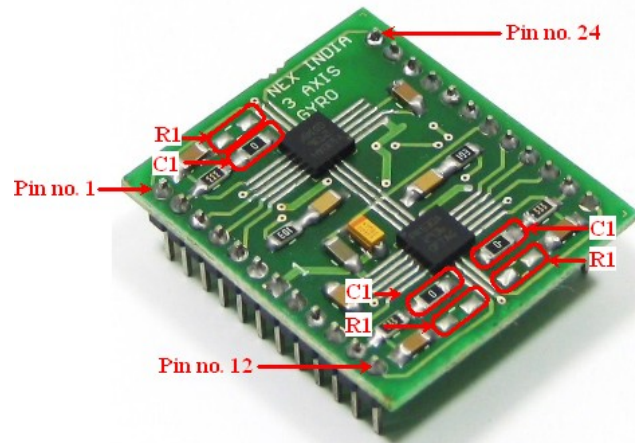

Figure 1: Pin Configuration
0.1uF and 10uF power supply decoupling capacitors placed near the supply pins. The board allows band limiting of the output rate response through the use of an external low pass and high pass filter. It is always recommended to have low pass filter. On the board low pass filter consisting of R2 and C2 is present. High pass filter is generally not required but if it is required for some specific application, empty pads for R1 and C1 are provided. In the default condition C1 is replaced by 0 ohm resistance. Use R1206 package SMD components for the high pass filter. Refer to Figure 1 for location of the R1 and C1.